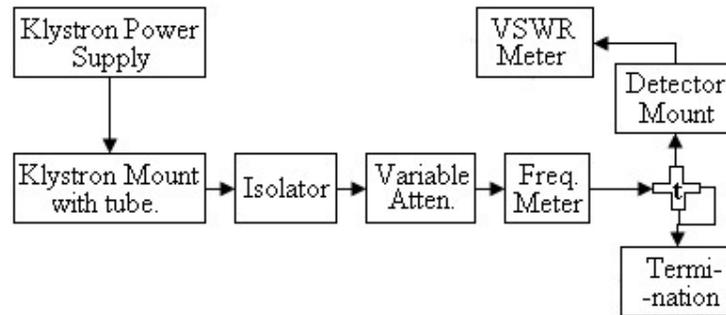

Fig.11 – **Block Diagram for Measurement of Magic Tee**
1. Assemble equipment as shown in Fig 11. Take care that all the components are mechanically aligned and firmly screwed.
4. Connect the magic Tee as shown Fig. 11.